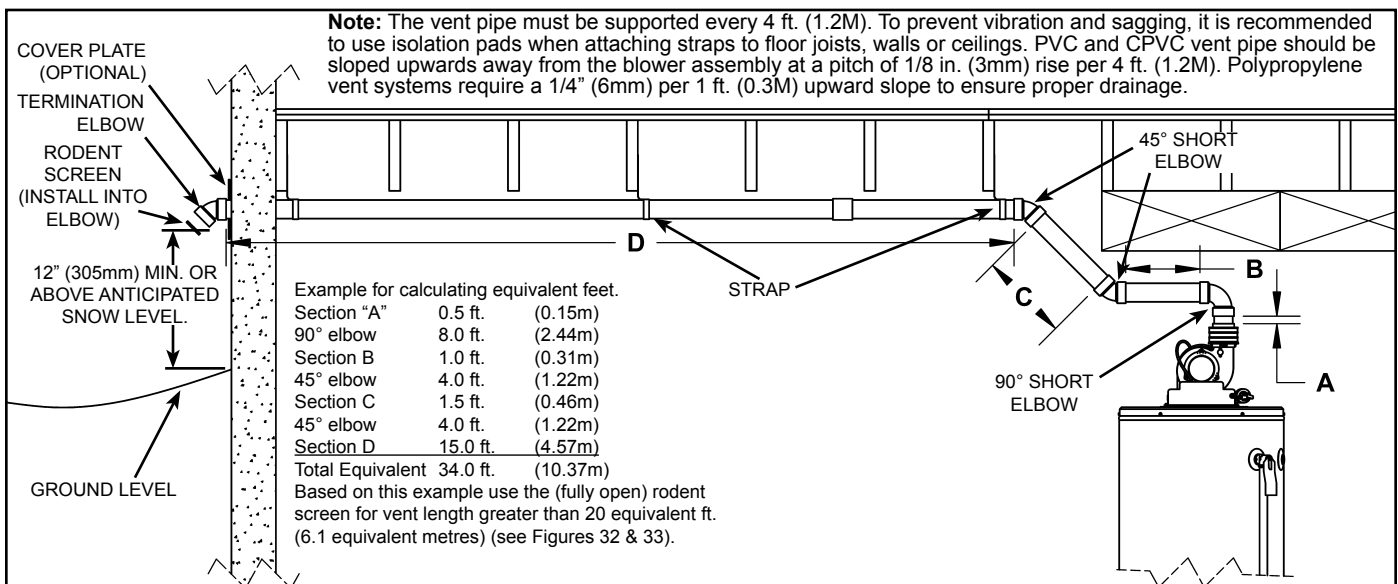
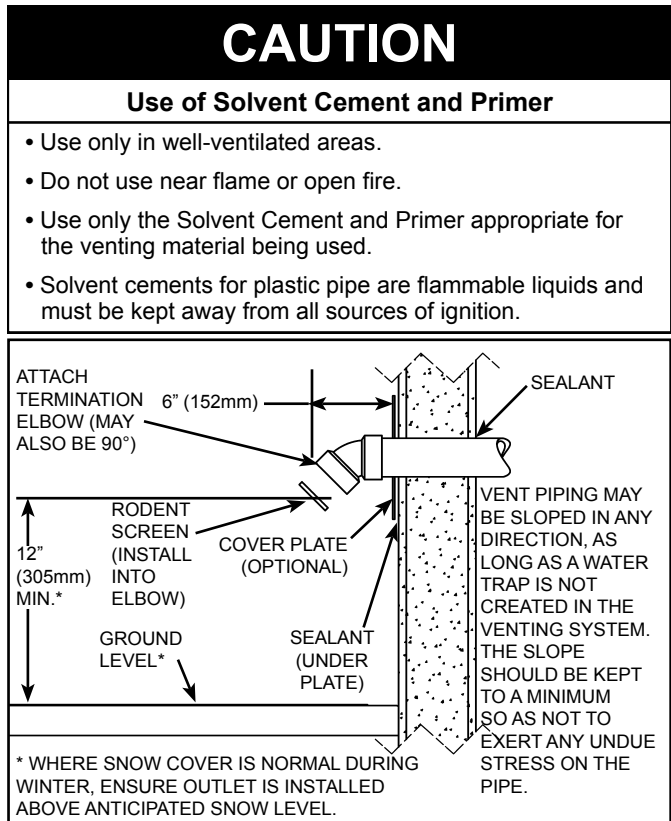
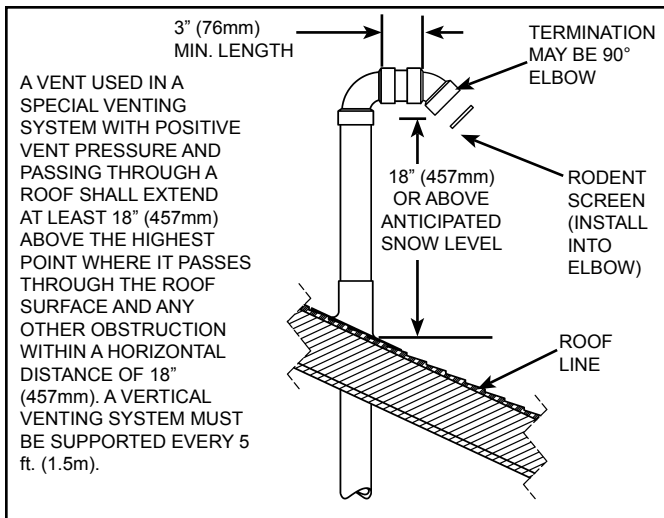

Figure 34
Figure 35
Figure 37
This heater is designed to exhaust the products of combustion (flue gases) to the outdoors using a sealed piping system. Table 2 lists the allowable vent materials and sizing information. Figure 34 shows the general venting layout while Figures 38-42 show various end termination details and clearances. Connection of the venting piping to the blower is shown in Figures 38-42.
- Refer to Figure 34 and Table 2 for vent pipe materials and sizing. Examples of the vent terminations are shown in Figures 35 & 36. If the installation requires a vent riser, suitable drainage must be provided to ensure condensation does not accumulate. Termination through a roof is shown Figure 37.
Installed in the vent termination elbow, the vent screen is required to keep foreign objects, rodents and small birds from entering the venting system. These screens have been sized to ensure maximum energy efficiency of the vent system based on the "equivalent length" of the vent piping. **CHOOSE ONLY the ONE SCREEN THAT MATCHES YOUR VENTING CONFIGURATION** (see Figures 32 & 33). How to determine the "equivalent length" is shown in Figure 34 and in Table 2.
5. Calculate "Equivalent Vent Length" before starting. Do not exceed the values shown in Table 2. An example of how this length is determined is shown in Figure 34. The value from your calculations should also be used to determine which rodent screen to install into the vent termination elbow.